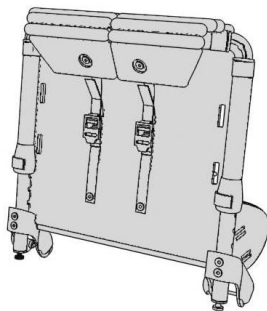

figure 2
4. Buckle the 2 wide horizontal straps and tighten well (figure 2)